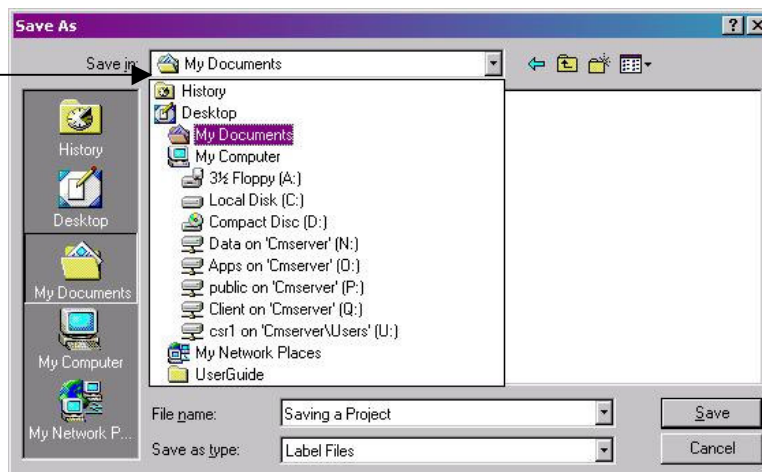

Figure 5.1.5: Selecting where to save the project
3. Select the where you would like the project to be saved (see Figure 5.1.5).